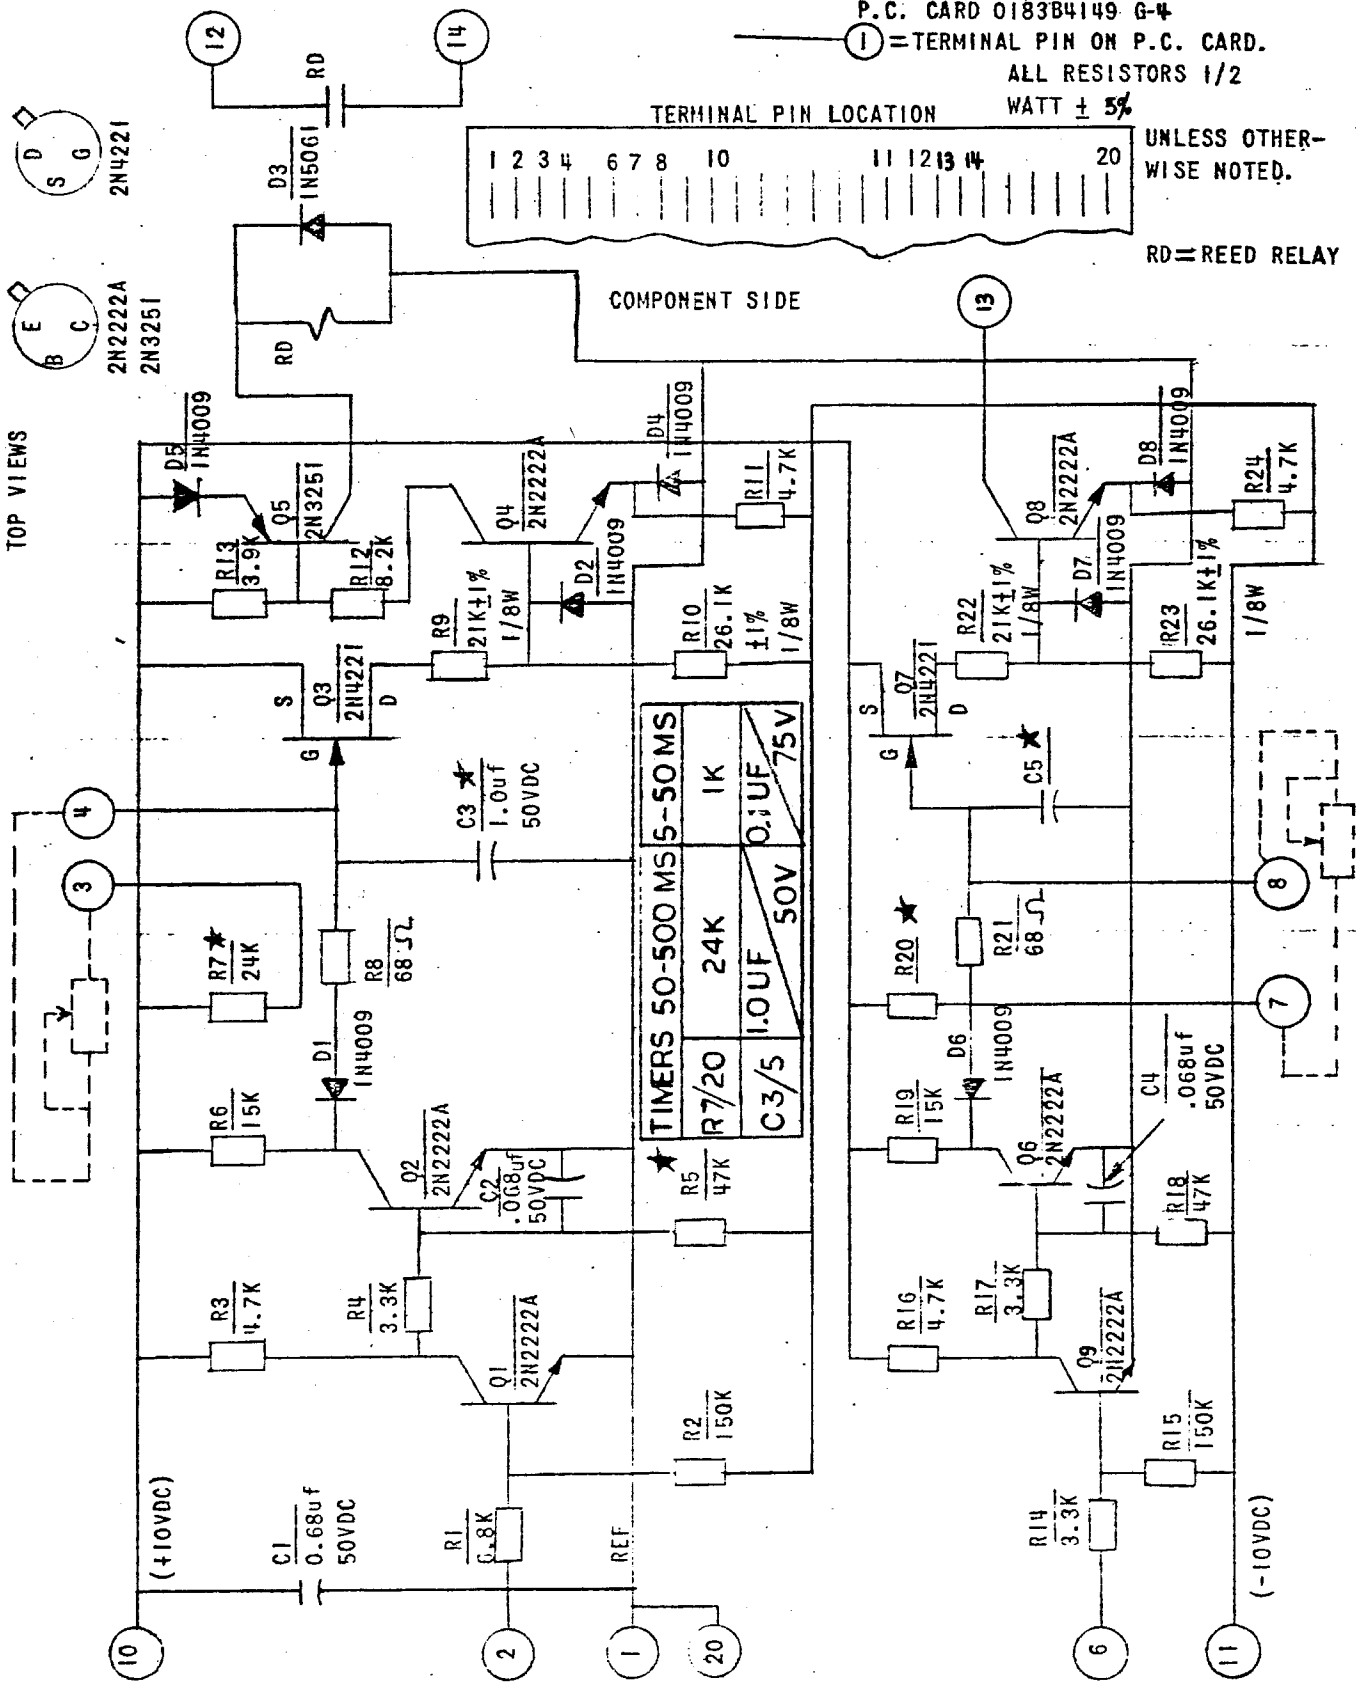

Figure 3 (0246A6920-2) Internal Connections for "B" Card
4. The printed circuit cards are the same for the SBC23B and SBC99AC except for the "B" and "C" cards. The internal connections for the "B" and "C" cards of the SBC99AC are shown in Figure 3 and 4 of this book, respectively.